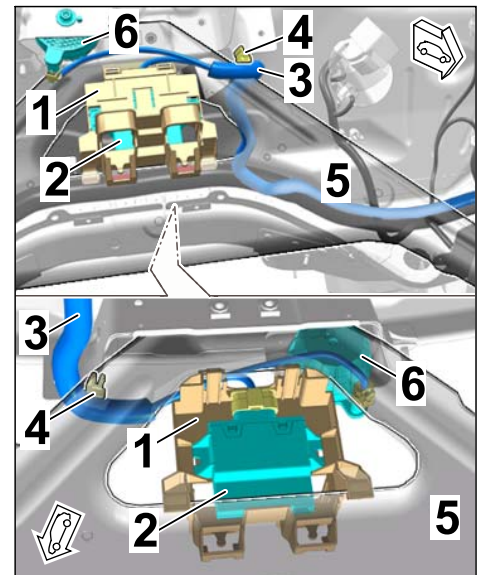

Figure 14
2.1.5 Install the holder with the engine noise control unit to the strut brace (plenum panel area) (⇒ *Figure 14*).